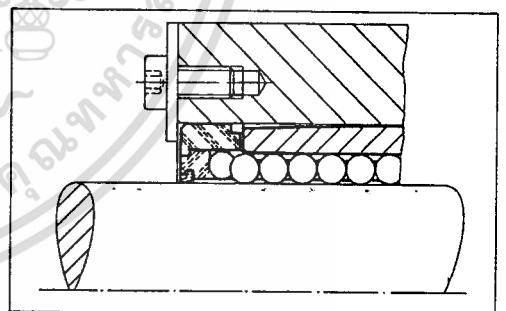

Figure 24: Axial retention by means of screws and retaining plate.
- special arrangement (Figure 24)